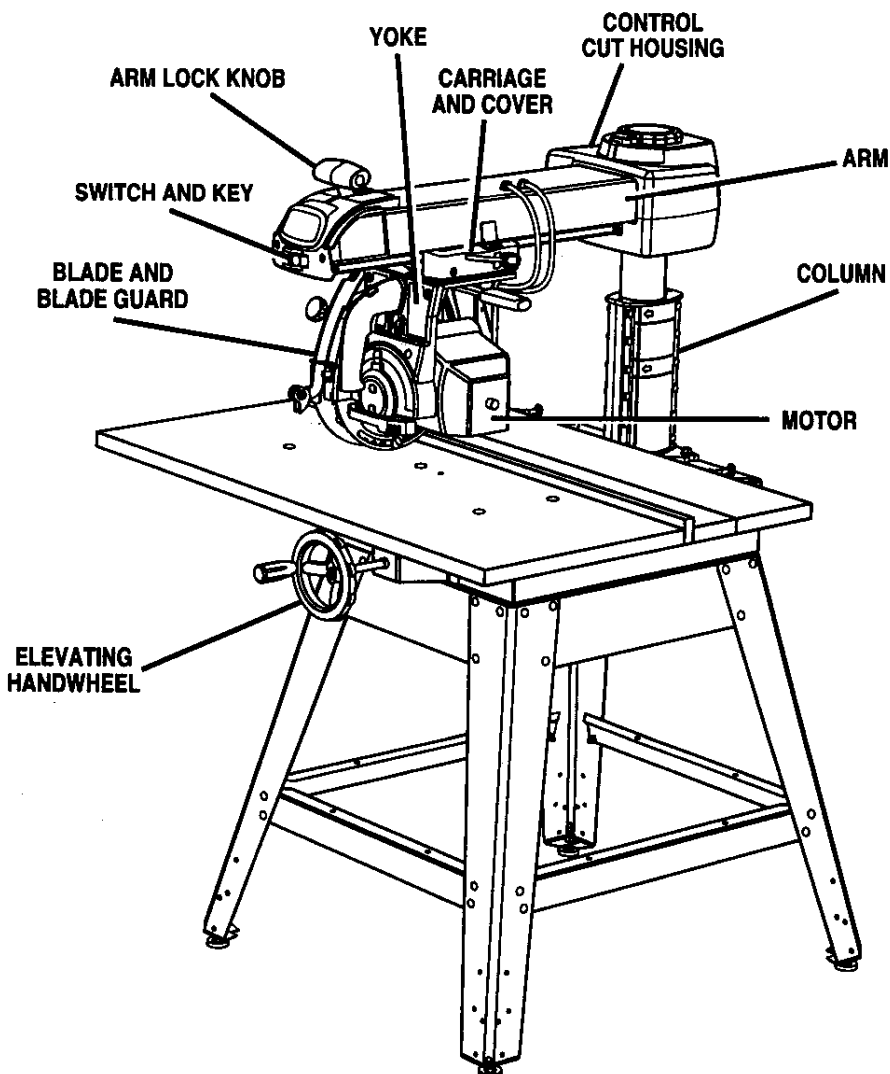

Fig. 9A
See Figure 9A.
See Figures 9A-9D.
**ARM** - The assembly extending from the column, which supports the yoke, the motor, and the blade. See Figure 9A.
**ARM LOCK KNOB** - Controls arm angle. Use to set the arm to the positive stops at 0°, 45° left, and 45° right and to lock the arm in place. Located on top of arm at front. See Figures 9A and 9B.
**BLADE GUARD ASSEMBLY** - Protective unit over the blade, with a riving knife, anti-kickback pawls, an upper blade guard, a lower outer blade guard, and a lower inner blade guard. Always keep each item in place unless specifically instructed to move it. See Figures 9A and 9D.
**COLUMN** - Upright housing at the back of the saw, consisting of a column support and a column tube. The column tube can be raised or lowered with the elevating handwheel at the front of the saw. *See Figures 9A and 9B.*
**SWITCH WITH KEY** - Powers the blade motor. Placed on the front of the arm for easy access. To lock the switch once it has been pressed to **OFF**, remove the yellow key. Place the key in a location that is inaccessible to children and others not qualified to use the tool. *See Figures 9A and 9C.*